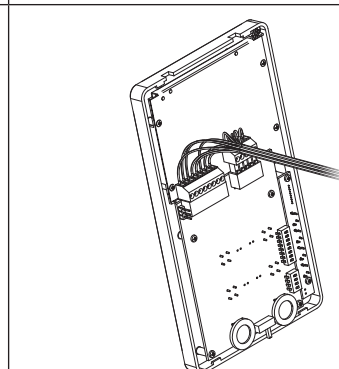

Fig. 6
- As shown in Fig. 5, connect the wires to the removable terminals following the provided installation diagram. Connect the terminal blocks to the electronics contained in the cover as shown in Fig. 6. Test system before closing. Contrast and hue trimmers can be adjusted only if the videophone is open. To activate the display and see changes use the "Camera Recall" function by pressing  button.